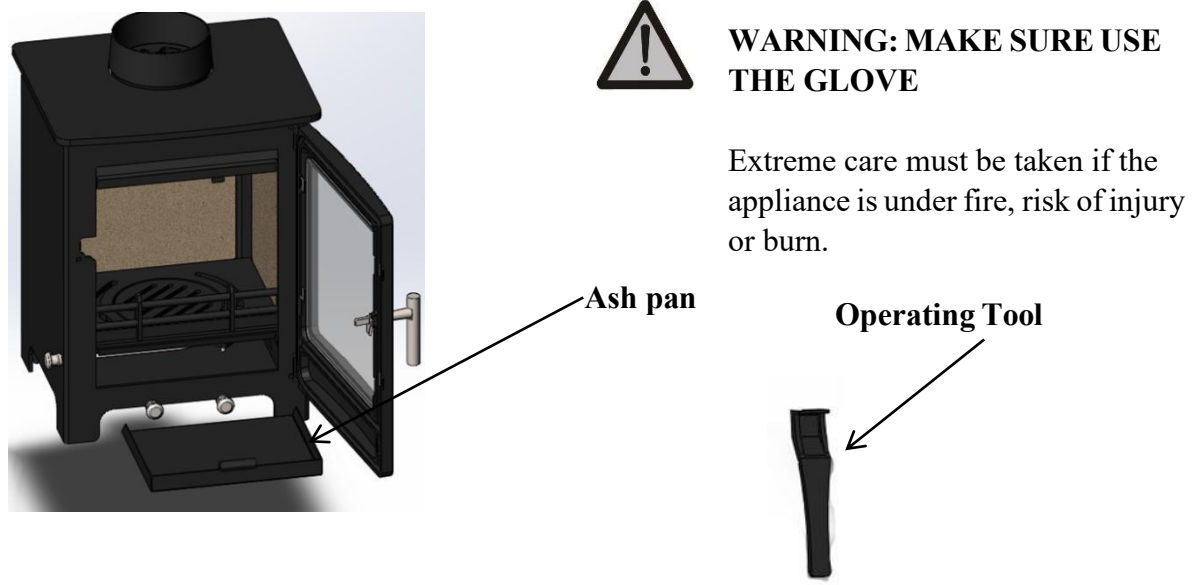

Fig. 7. Ash pan and Operating Tool
- Insert the fork end of the operating tool into the ash pan (see Fig. 7.).